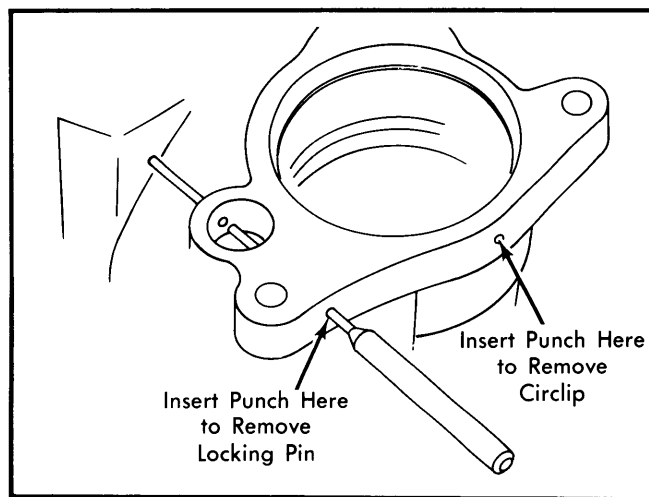

Fig. 1 Circlip Punch Hole Location and Removing Locking Pin on VT49 Pump
3) On rear of housing, push in cover and insert a punch through hole in housing. See Fig. 1. Push in on punch and remove circlip and cover. Remove spring and "O" ring from housing. Push input shaft with pressure plate at cover end, rotor, cam ring and pressure plate at input end out of housing in rearward direction.
4) Remove pressure plate, cam ring and blades. Remove locking clip from input shaft, then remove rotor and pressure plate. Remove cylinder pins from housing. Using a punch, knock out locking pins in housing. See Fig. 1.